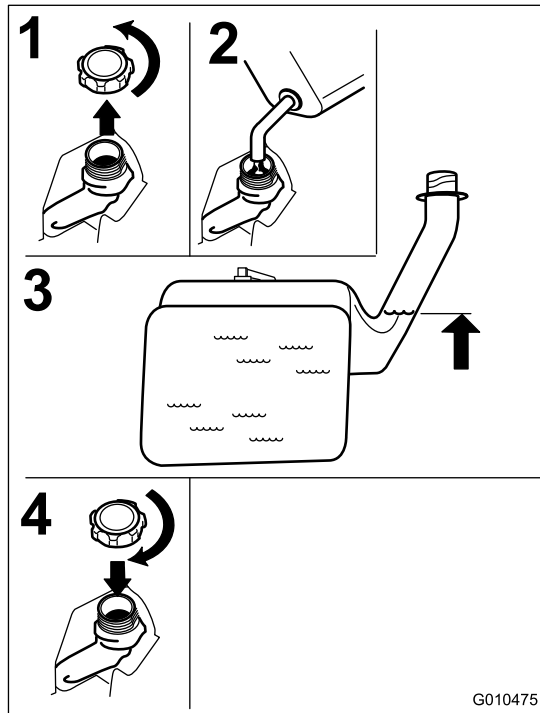

Figure 8
2. **Slowly** add regular, unleaded gasoline until the fuel reaches the base of the filler neck Figure 8.